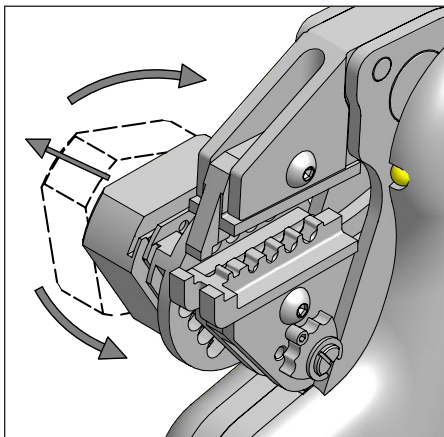

Figure 12
8.3.3 Die sets for rotated contacts (Figure 12, 13)
2. If required, pull out the positioning guide and rotate it in order to position it correctly. (Figure 12)